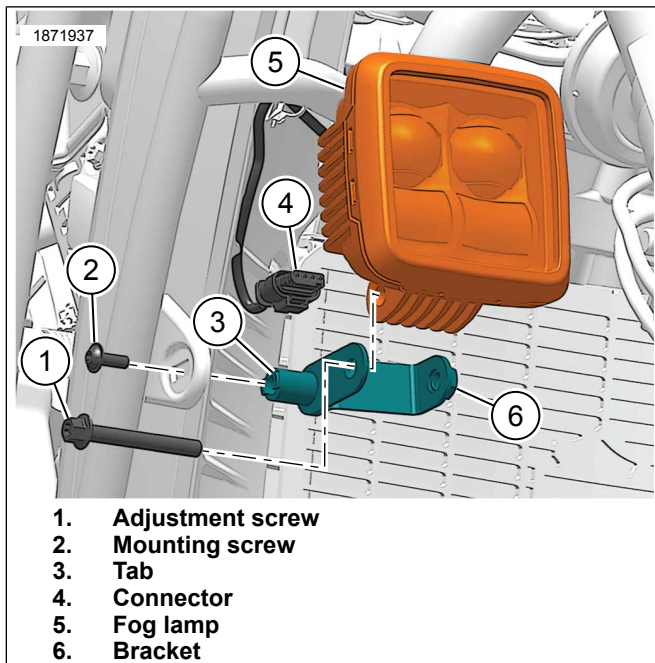

Figure 10. Fog Lamp
1. See Figure 10. Install mounting bracket.
- a. Align tab (3) on mounting bracket with slot on engine guard.
- b. Install mounting screw (2). Tighten.